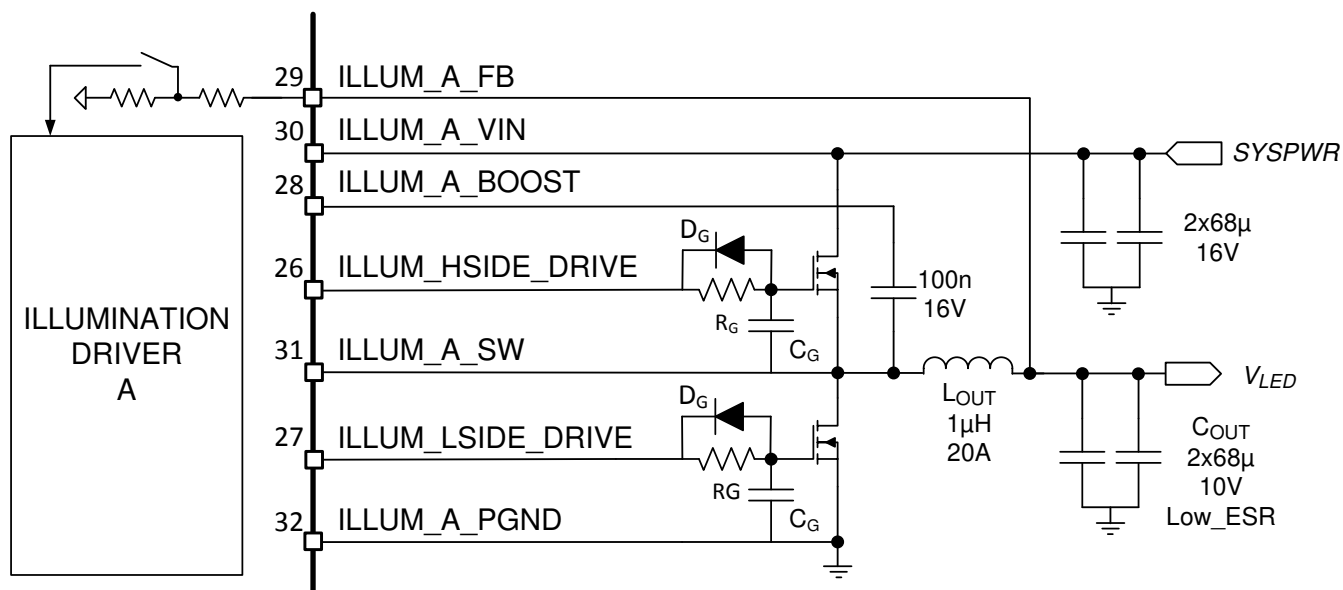

Figure 7-4. Typical Illumination Driver Configuration
The illumination driver of the DLPA3005 is a buck controller for driving two external low-ohmic N-channel FETs (Figure 7-4). The theory of operation of a buck converter is explained in the application note Understanding Buck Power Stages in Switchmode Power Supplies. For proper operation, selection of the external components is very important, especially the inductor L_{OUT} and the output capacitor C_{OUT} . For best efficiency and ripple performance, an inductor and capacitor should be chosen with low equivalent series resistance (ESR).
Below (FIG 7-10) an overview is given of the efficiency of the illumination driver plus power FETs for an input voltage of 12 V. Used external components (FIG 7-4): High-side FET (L) CDS17506Q5A, Low-side FET (M) CDS17501Q5A, $L_{OUT} = 2 \times 2.2 \mu H$ parallel, $C_{OUT} = 88 \mu F$. The efficiency is shown for several output voltage levels (V_{LED}) versus output current.